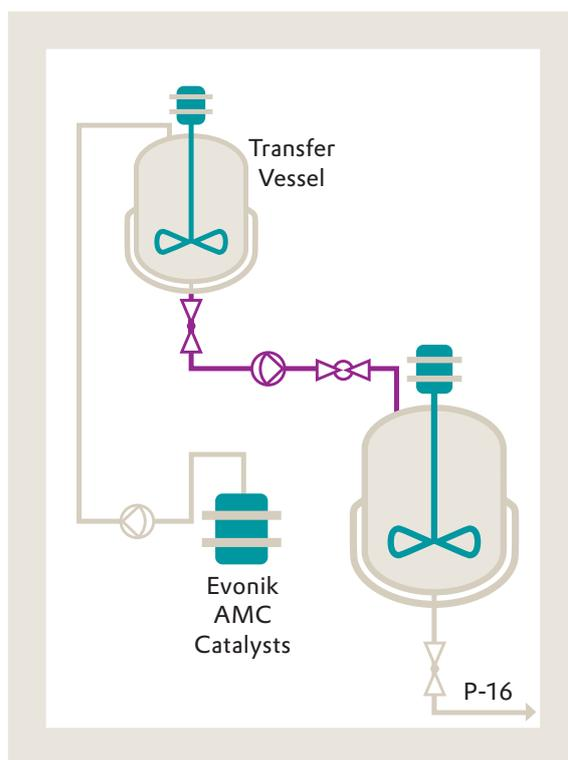

Figure 3
3. Pump the catalyst slurry into the reactor. It is important that the catalyst is transported through slanted tubes. Horizontal tubes and other places the catalyst can collect should be avoided. (Figure 3)